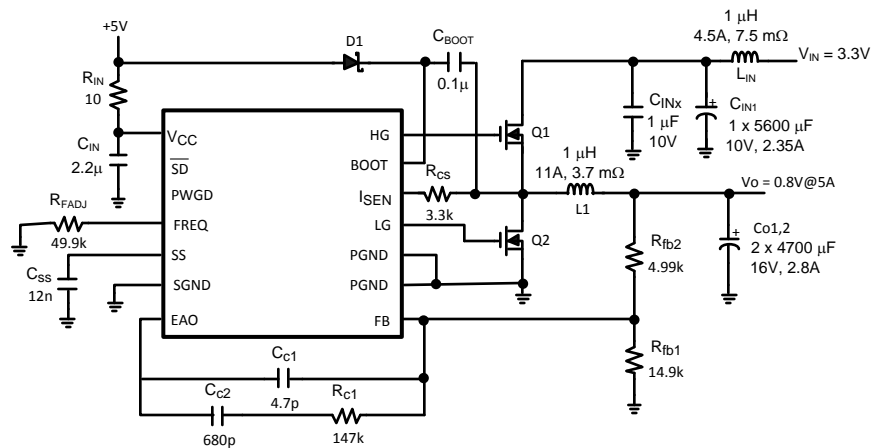

Figure 34. 3.3V to 0.8V, 5A, 500kHz
The circuit of Figure 34 demonstrates the LM2742 delivering a low output voltage at high efficiency (87%). A separate 5V supply is required to run the chip, however the input voltage can be as low as 2.2
**Table 5. Bill of Materials for Circuit of Figure 34**
**Table 5. Bill of Materials for Circuit of Figure 34 (continued)**